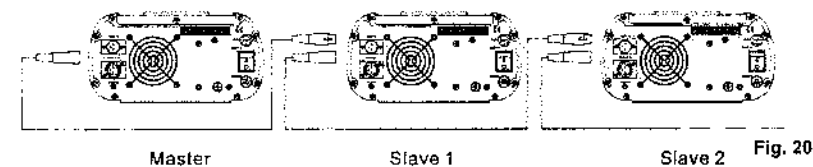

Fig. 20
4. The connection of Master/Slave Control Mode (See Fig. 20):